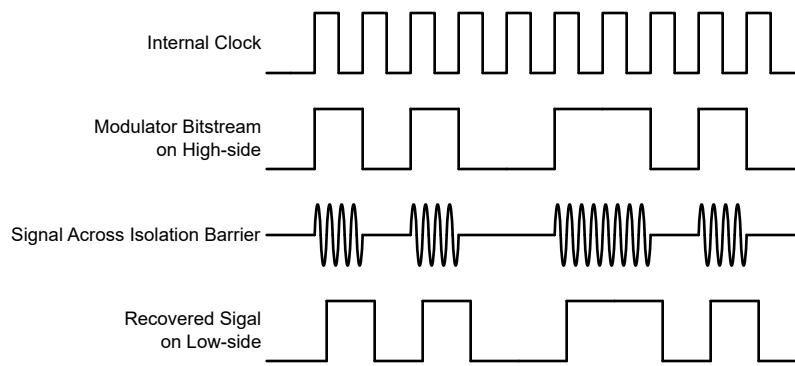

Figure 7-1. OOK-Based Modulation Scheme
As shown in Figure 7-1, the AMC0x11R uses an on-off keying (OOK) modulation scheme to transmit the modulator output bitstream across the SiO_2 -based isolation barrier. The transmit driver (TX) is illustrated in the Functional Block Diagram. TX transmits an internally generated, high-frequency carrier across the isolation barrier to represent a digital one. However, TX does not send a signal to represent a digital zero. The nominal frequency of the carrier used inside the AMC0x11R is 480MHz.